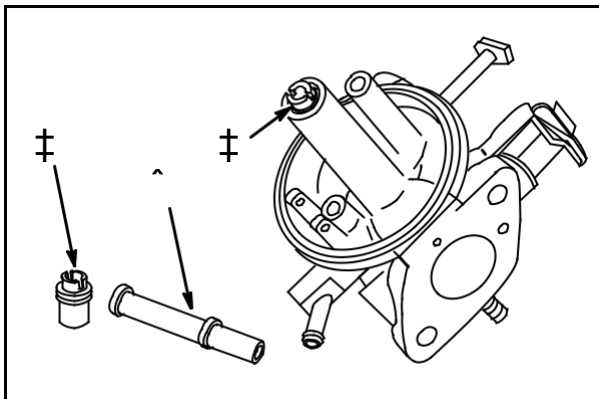

Fig. 25
Remove fixed main jet (7) using Screwdriver #19062, Fig. 25.